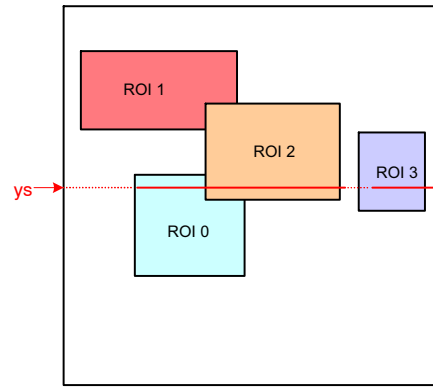

Figure 24. Scanning the Image Array with Four Windows
Figure 24 illustrates a practical example of a configuration with five windows. The current position of the read pointer (ys) is indicated by a red line crossing the image array. For this position of the read pointer, three windows need to be read out. The initial start position for the x-kernel pointer is the x-start configuration of ROI0. Kernels are scanned up to the ROI2 x-end position. From there, the x-pointer jumps to the next window, which is ROI3 in this illustration. When reaching ROI3's x-end position, the read pointer is incremented to the next line and xs is reinitialized to the starting position of ROI0.
- The read pointer is not necessarily incremented by one, but depending on the configuration, it can jump in y-direction. In Figure 24, this is the case when reaching the end of ROI0 where the read pointer jumps to the y-start position of ROI1.